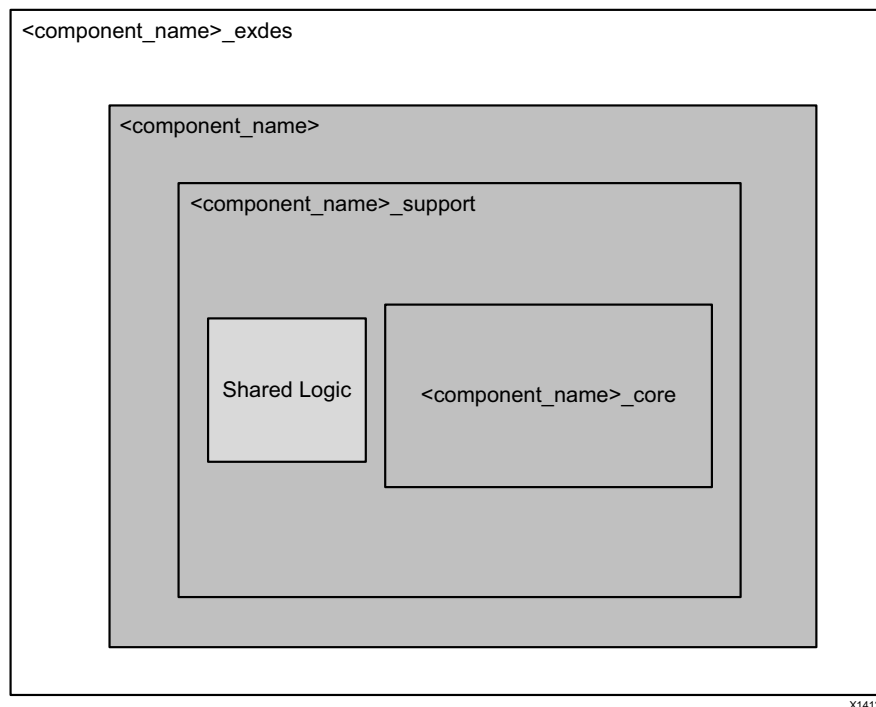
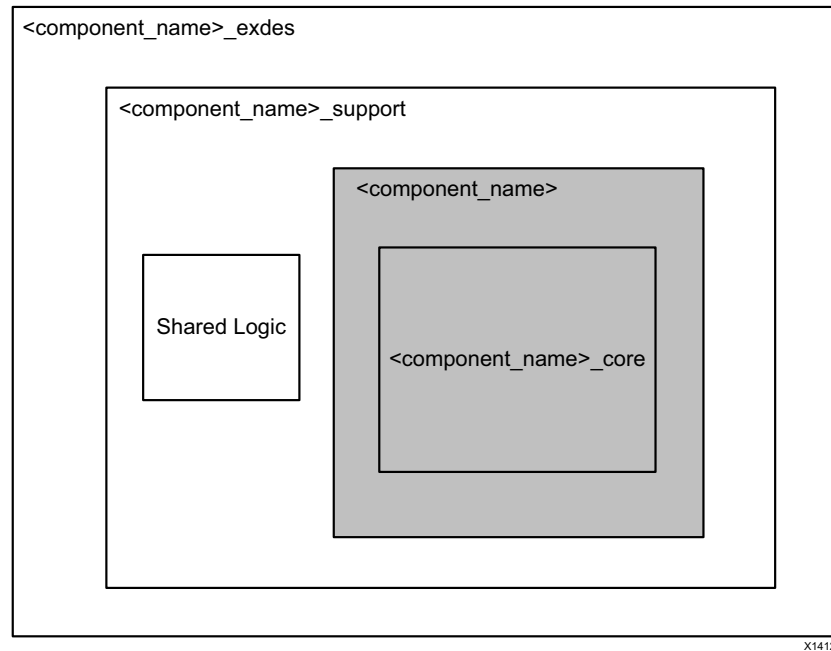

Figure 3-9: Shared Logic Included in Core
Figure 3-10: Shared Logic Included in Example Design
The shared logic hierarchy is called `<component_name>_support`. Figure 3-9 and Figure 3-10 show two hierarchies where the shared logic block is contained either in the core or in the example design. The difference between the two hierarchies is the boundary of the core. It is controlled using the **Shared Logic** option in the Vivado IDE (see Figure 4-4, page 74).
**Note:** Grayed blocks in Figure 3-9 and Figure 3-10 refer to the IP core.